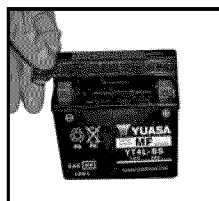

Figure 20
- Place battery on level surface. Remove sealing tape from top. (see figure 20)